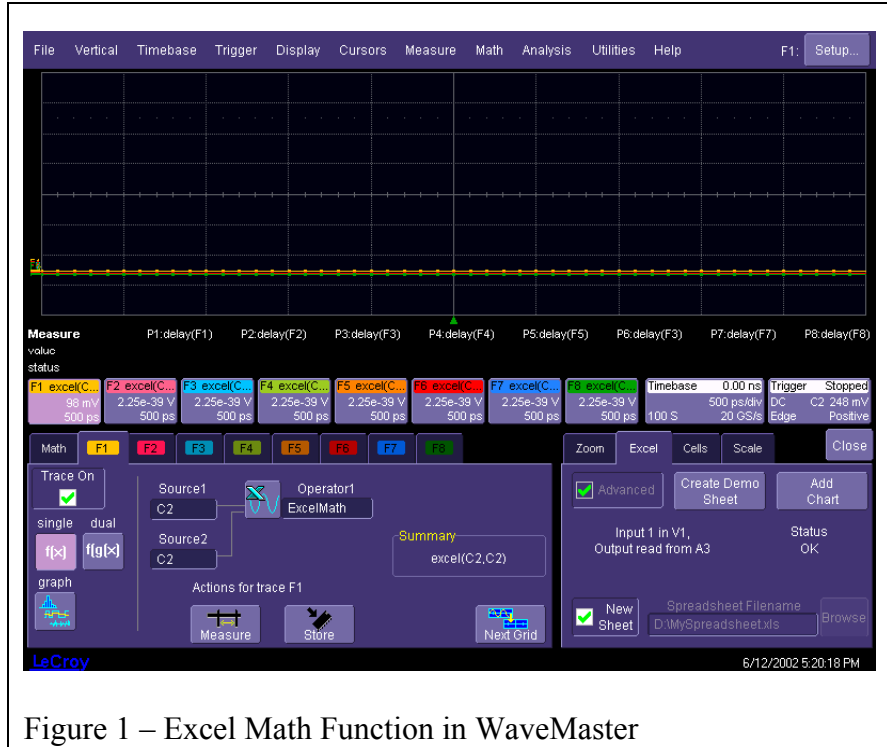
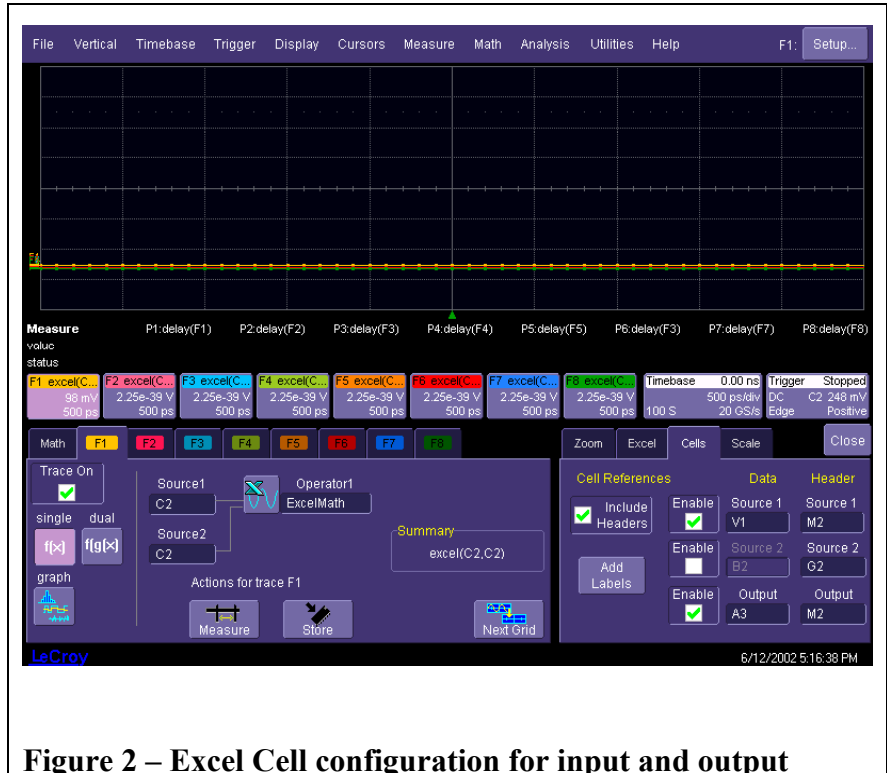
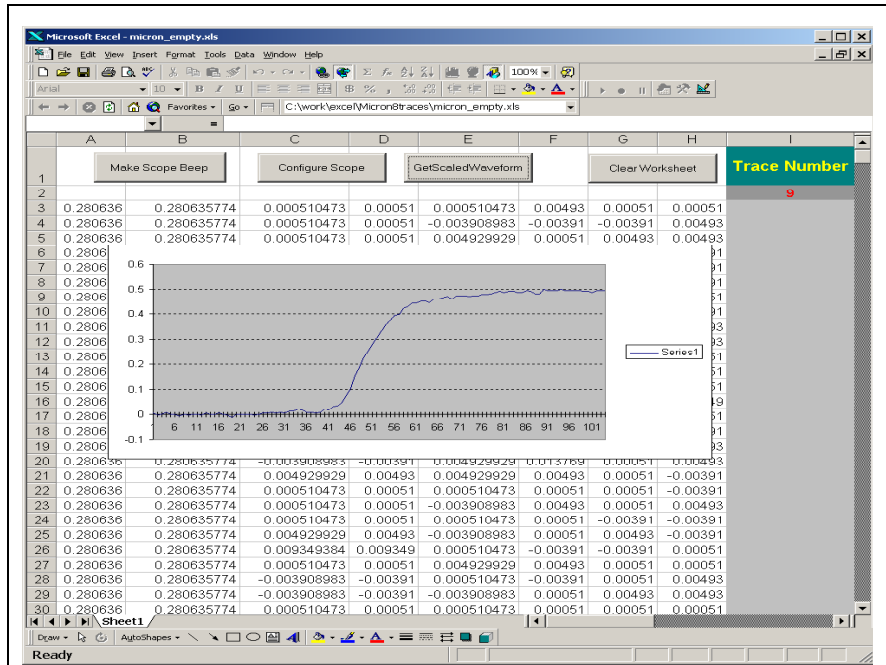

Figure 1 – Excel Math Function in WaveMaster
Figure 2 – Excel Cell configuration for input and output
Figure 3 – Excel with embedded ActiveDSO scripts
- 1) Recall or setup scope as Figure 1 and Figure 2.
- 2) In “Cells” configuration, the header and source information is placed on right side section of the worksheet. V1 is source trace and M2 is the header information. (Figure 2)
- 4) Math channel F1, Excel Function, will import the trace data from column A3 and then will display on the screen. F2 will import the trace data from B3, and so on.....(Figure 2 “output” and Figure 3).